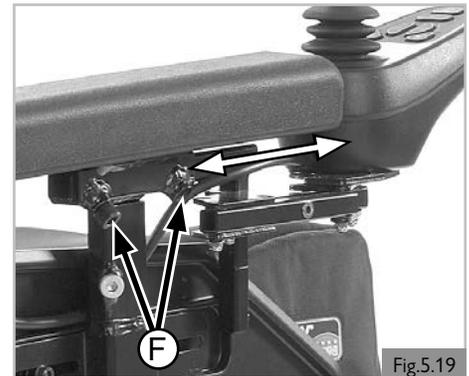

Fig.5.19
5.9 Pre-set controller adjustment (Fig. 5.19)